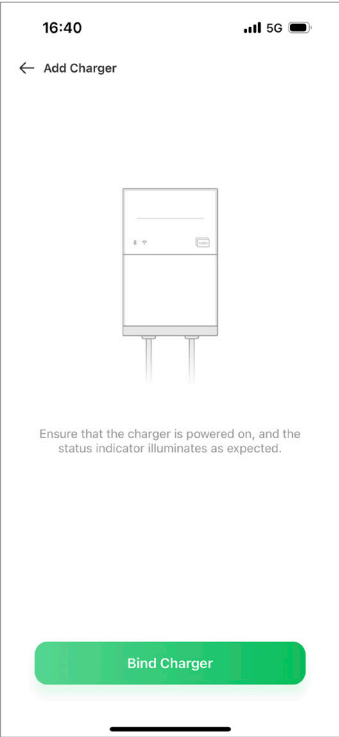

Fig. 6-7
3. Tap "Bind Charger" (See Fig. 6-7). Select the target device when the scanning completes.